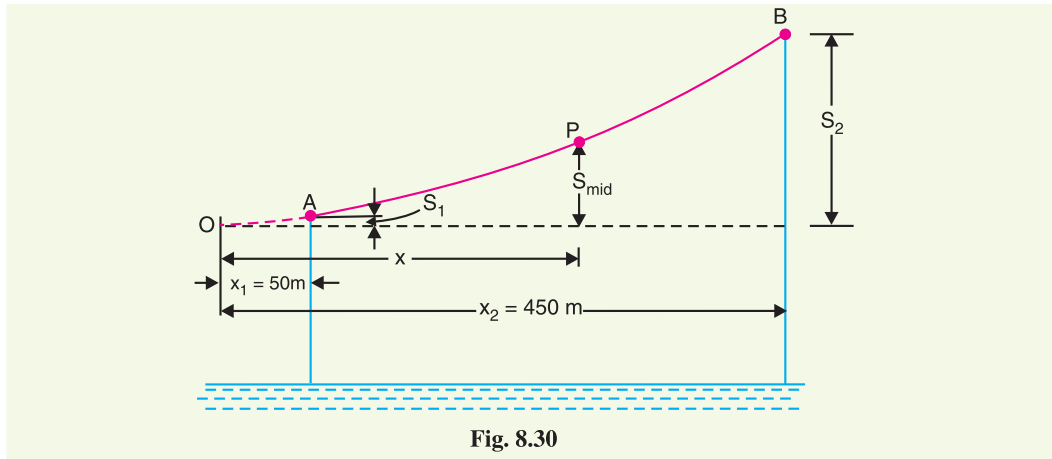

Fig. 8.30
**Solution.** Fig. 8.30 shows the whole arrangement.
Now  $x_2$  is the distance of higher support B from the lowest point O on the conductor, whereas  $x_1$  is that of lower support A. As the span is 400 m, therefore, point A lies on the same side of O as B (see Fig. 8.30).